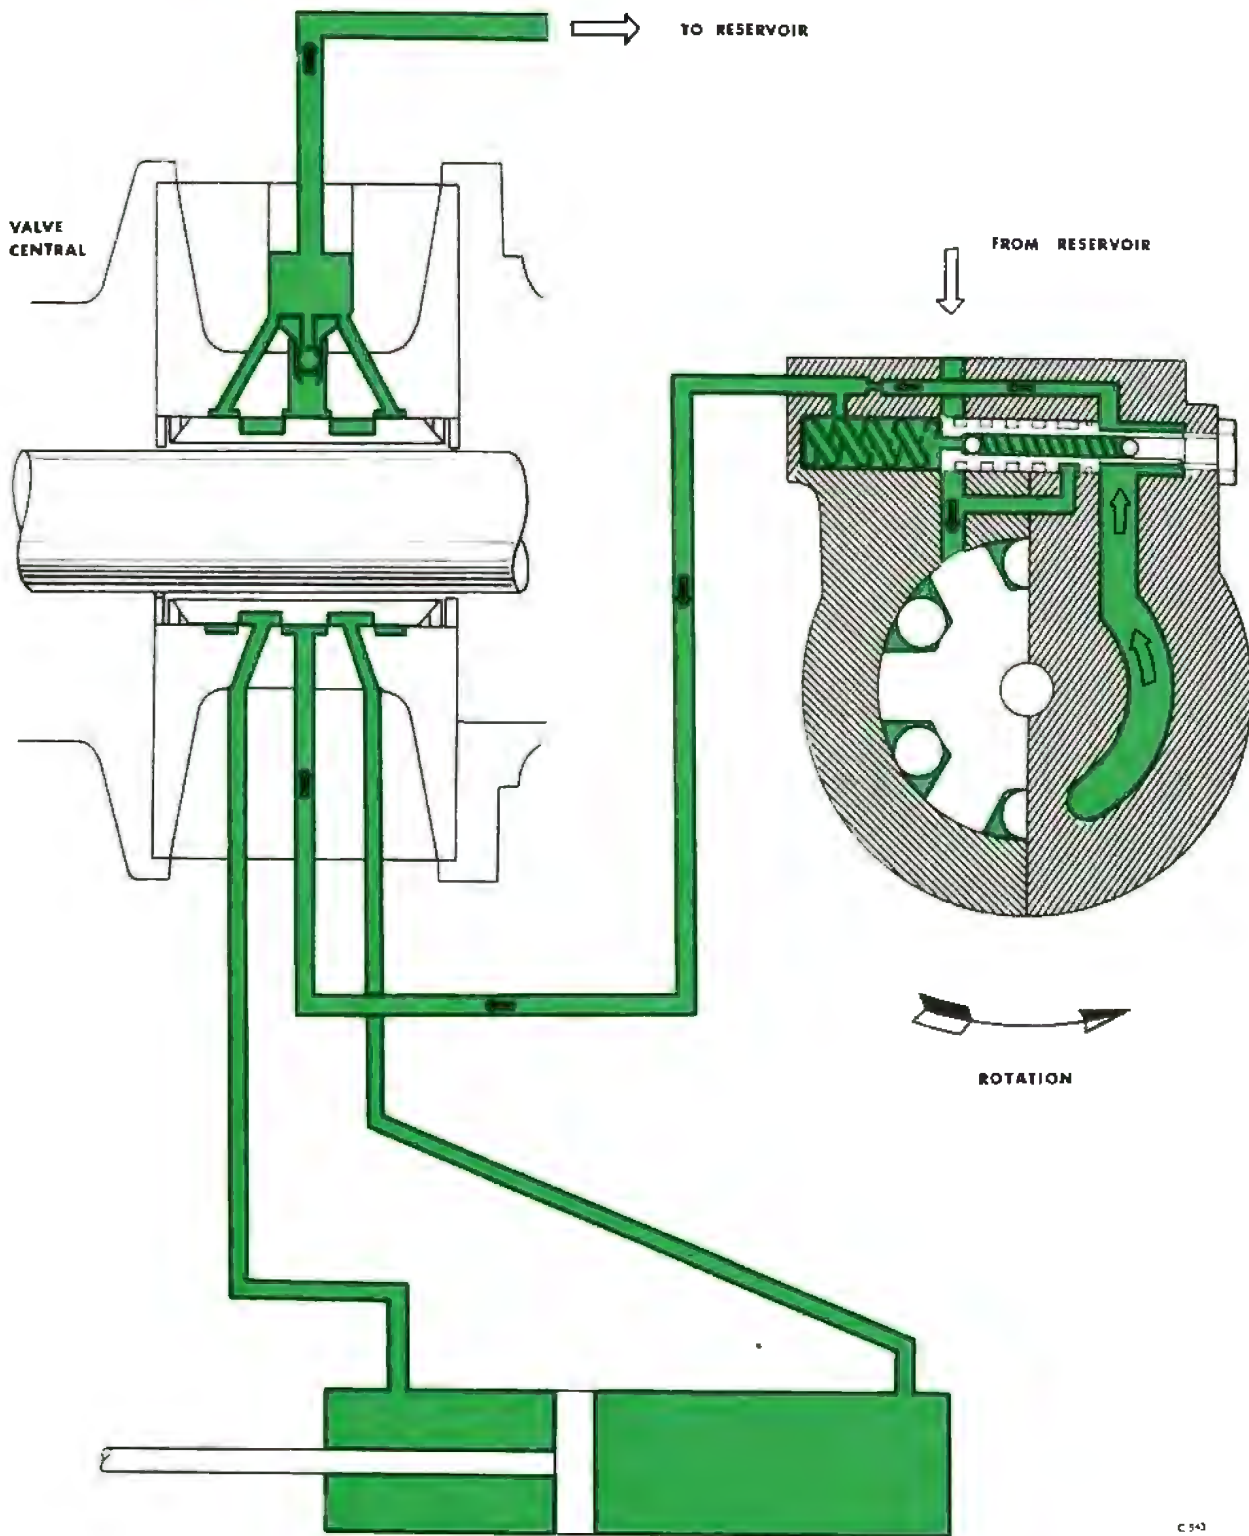

Fig. N1 (S) Circulation diagram—steering straight ahead conditions—no load
Figure N1 (S) of this Supplement shows the oil circulating diagram when the steering is in straight ahead or no load position. The delivery pressure from the pump is approximately 80 lb/sq.in. The pressure in the steering box is approximately 60 lb/sq.in. and the pressure of the return flow to the reservoir is approximately 5 lb/sq.in.